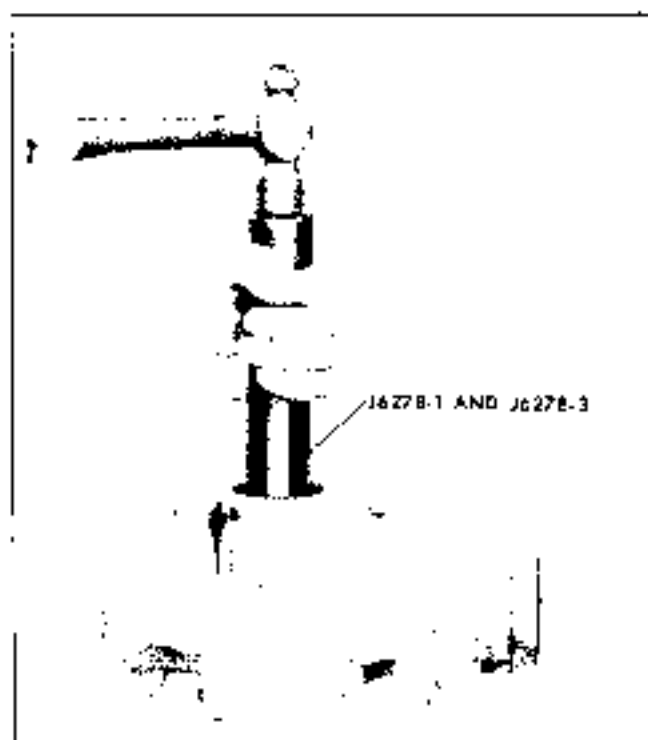

Fig. 9-57 Removing or Installing Pitman Shaft Needle Bearing
6. If pitman shaft needle bearings are to be replaced, remove bearing by driving out of housing, using tool J 6278-1 with adaptor J 6278-3 (Fig. 9-57).